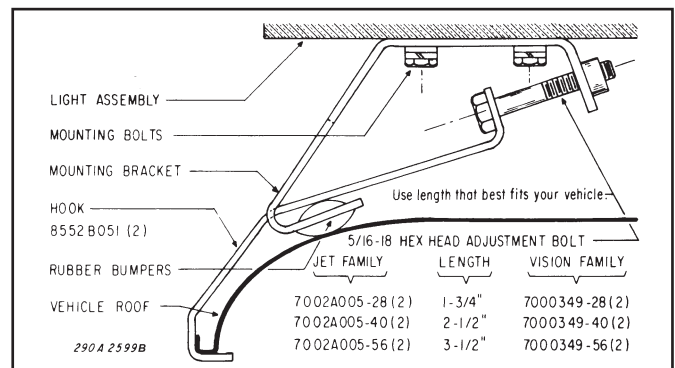

Figure 1.
2. See Figure 1. Insert the hook into the opening in the center of the mounting bracket. Install the 1-3/4", 2-1/2" or 3-1/2" stainless steel adjusting bolt (finger tight). Insure that the hook does not interfere with the door gasket or glass. Repeat step on other side of light assembly.